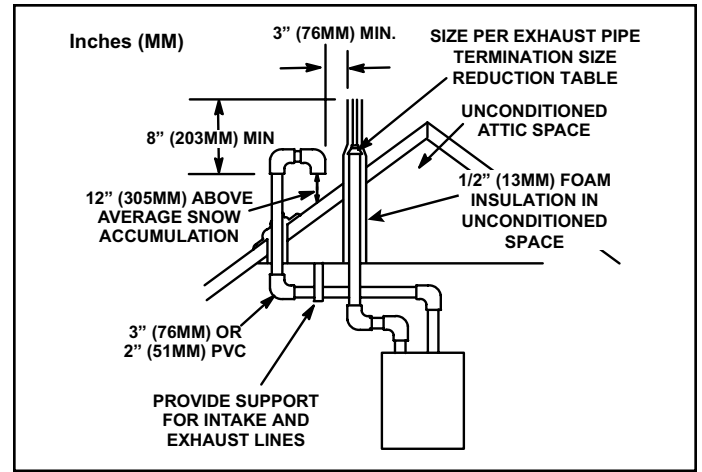

Figure 30. Direct Vent Roof Termination Kit 15F75 or 44J41
Intake and exhaust pipes may be routed either horizontally through an outside wall or vertically through the roof. In attic or closet installations, vertical termination through the roof is preferred. Figure 30 through Figure 37 show typical terminations.
3. On roof terminations, the intake piping should terminate straight down using two 90° elbows (See Figure 30).